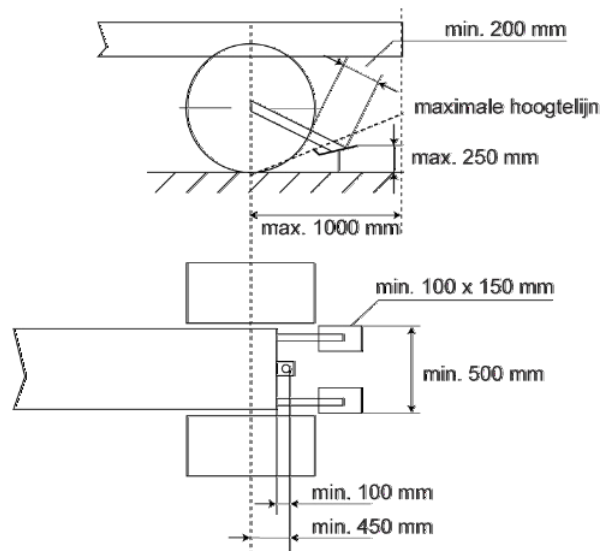

Figure 2 Dimensions stabiliser bars, stock, sport and supersport trucks
4. The stabiliser bar will extend a minimum of 200 mm behind the tyre. The pads are not allowed to be higher of the ground than the max. height in Figure 2. The stabiliser bar will extend a maximum of 1000 mm behind the centre of the wheel.